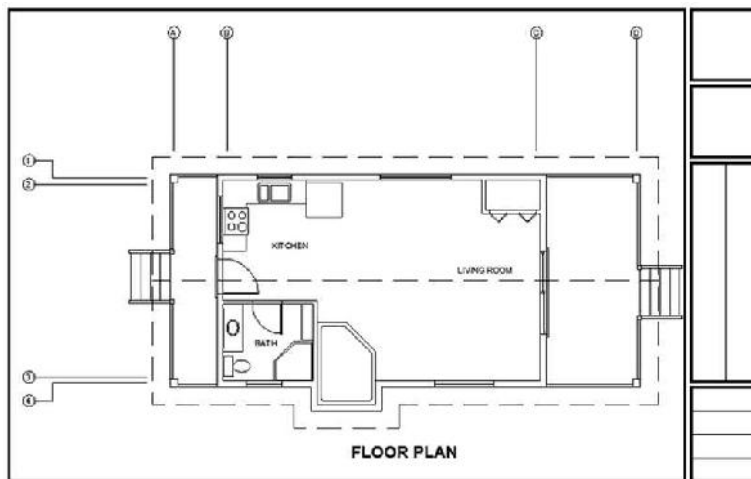

FIGURE 8.48: The completed title-block frame
14. Use the **LINE** command to subdivide the lower two rectangles along the right edge of your title block (look ahead to Figure 8.48):
Your drawing should now look like Figure 8.48.